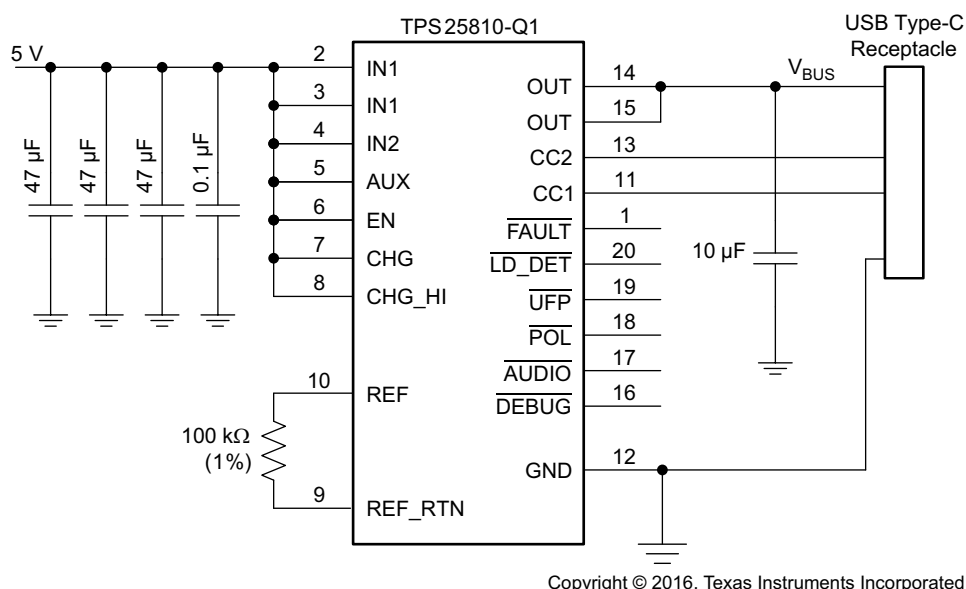

Figure 20. Type-C DFP Port Implementation Without BC 1.2 Support
Figure 20 shows a minimal Type-C DFP implementation capable of supporting 5-V and 3-A charging.
The TPS25810-Q1 device supports up to three different input voltages, based on the application. In the simplest implementation, all input pins are tied to a single voltage source set to 5 V, as shown in Figure 20. However, it is recommended to set a slightly higher (100 mV to 200 mV) input voltage, when possible, to compensate for IR loss from the source to the Type-C connector.
- Depending on the maximum current-level advertisement supported by the Type-C port in the system, set the CHG and CHG_HI levels accordingly. Advertisement of 3 A is shown in Figure 20.